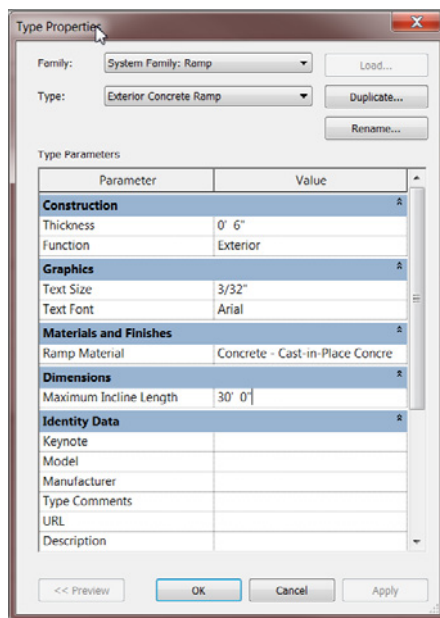

FIGURE 10.84: Modifying the Type Properties
8. For the ramp material, click the [...] button, and specify Concrete - Cast-In-Place Concrete, as shown in Figure 10.84.